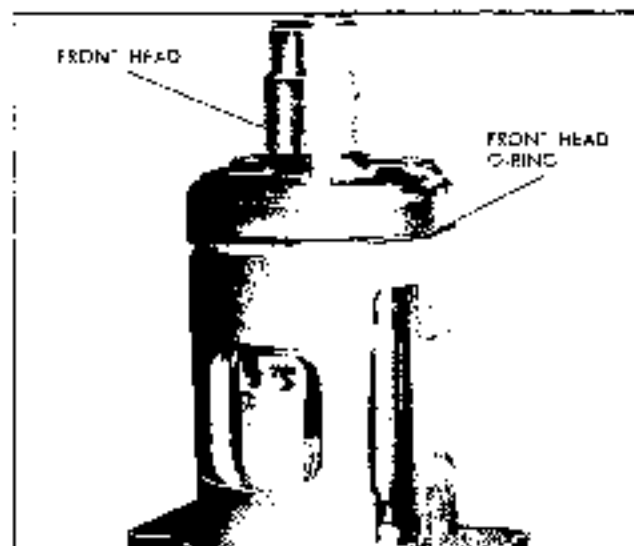

Fig. 1A-40 Installing Front Head Casting
8. Apply an ample amount of clean 52b viscosity Frigidaire oil around seal groove at the lower edge of casting. Coat large diameter head to shell O-ring and assemble O-ring on shoulder of shell (cf. Fig. 1A-41).
9. Coat the inside machined surfaces of shell with clean 52b viscosity Frigidaire oil. Line up oil sump with oil intake tube hole and slide mechanism into shell. Maintain this alignment when lowering mechanism into place (Fig. 1A-41).